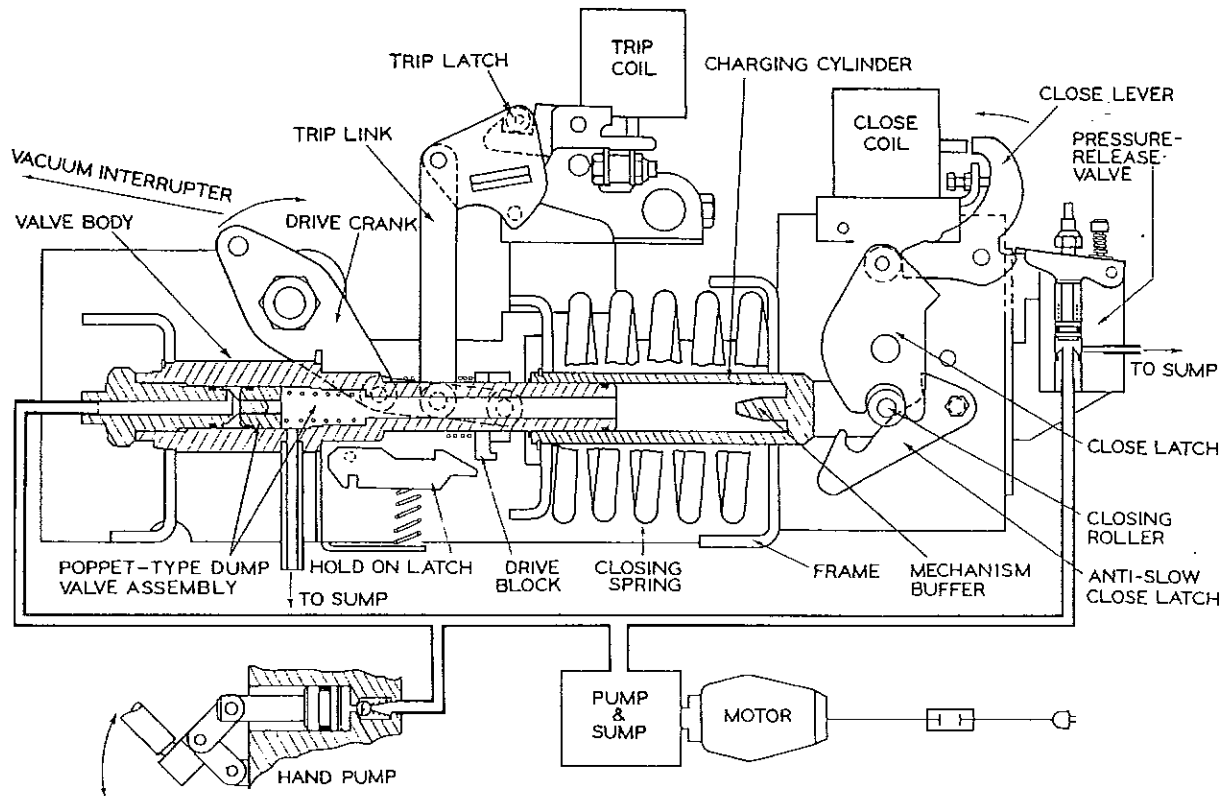

Figure 4
3. Charging cycle continues until the close latch engages the closing roller. At this time through the mechanical linkage a motor cutoff switch interrupts the supply voltage to the motor, completing the charging sequence (Figure 4).
The breaker is now ready for a closing operation, Figure 4.